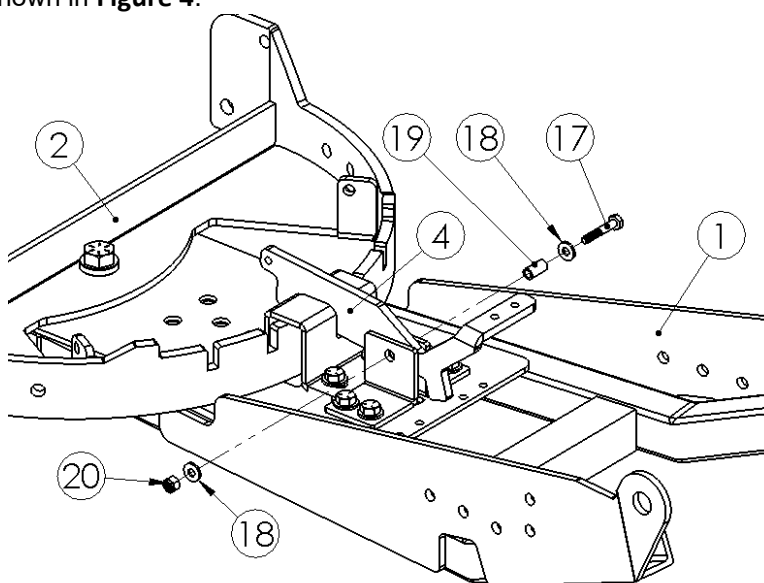

Figure 4
- 4) Attach the Pivot Lock Lever to the Pivot Lever Risers using the $1/4"$ x $1.5"$ Hex bolt, $1/4"$ Washers, $1/4"$ Aluminum Spacer and $1/4"$ Nylock Nut as shown in **Figure 4**.